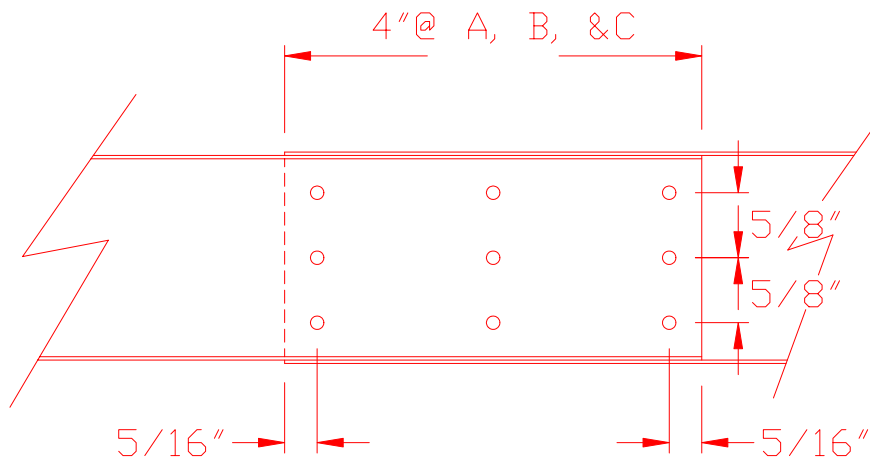

Figure 9.1.8
- 14) At positions A,B,C, drill nine #30 holes through the overlaps and cleco together. At D and E ,drill only the center three holes on the lower section. The other six holes will be drilled when the pulley brackets are installed. Figure 9.1.8.